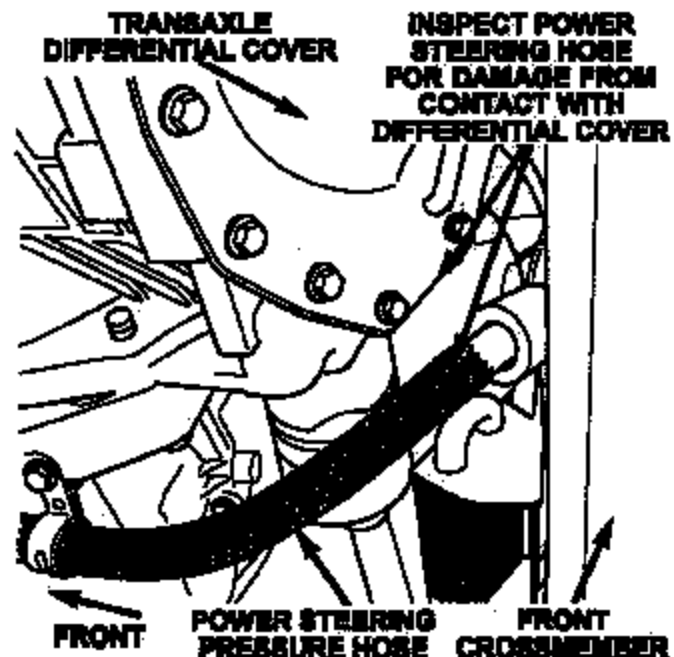

Figure 2
2. Inspect the section of power steering pressure hose closest to the transaxle differential cover (near the left rear of the engine) (Figure 2).